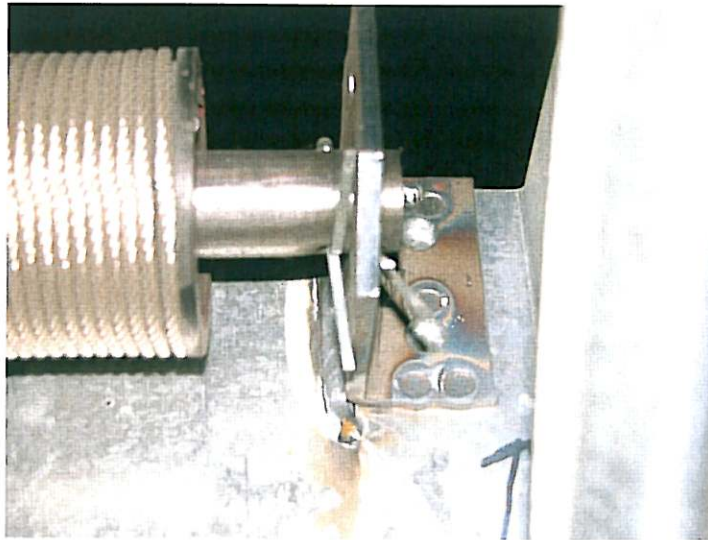

Figure 9
- d) Attach brackets to header securely. (see figure 9)